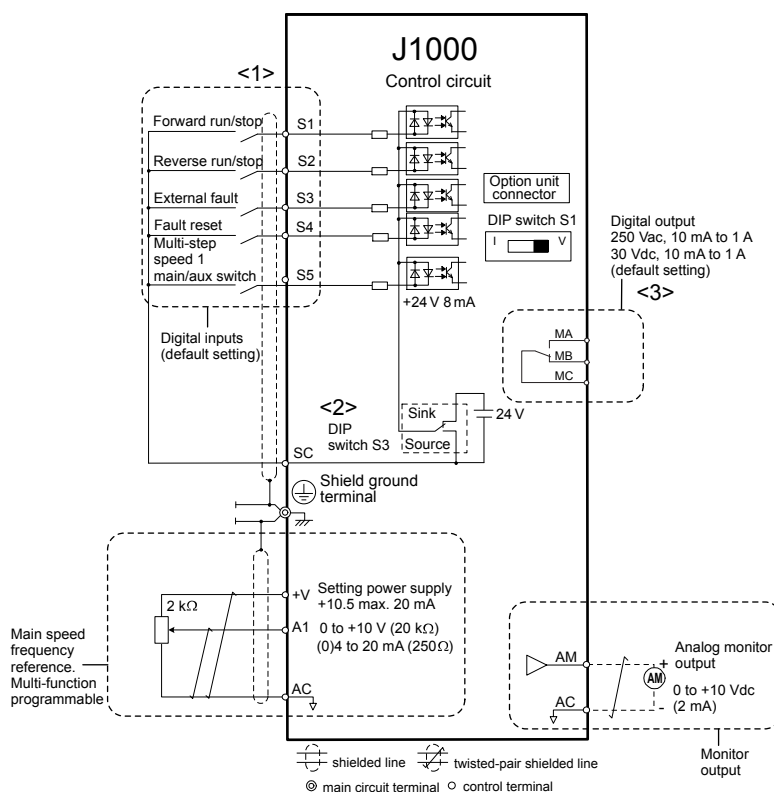

Figure 3.10 Control Circuit Connection Diagram
Drive parameters determine which functions apply to the multi-function digital inputs (S1 to S5), multi-function digital outputs (MA, MB, MC), and multi-function analog output (AM). The default is called out next to each terminal in Figure 3.10.